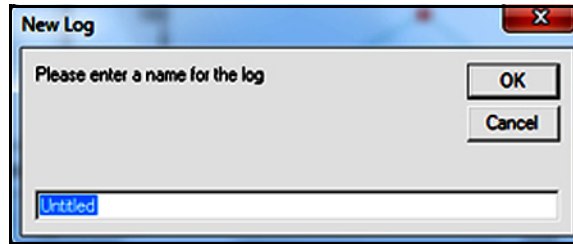

Figure 65: The Save As Dialog Box
- Click the “Save As” option to save the graphed data as a log file. When the dialog box in Figure 65 below opens, enter a name for the log file and click the [OK] button to save the file as: